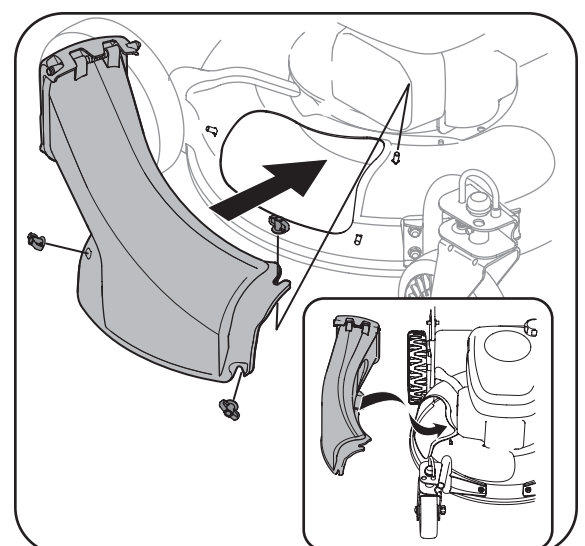

Figure 3-4
- b. Replace with grass bag adapter, while making sure the front lip of adapter goes under the edge of the deck. Secure with wing nuts previously removed. See Figure 3-4.